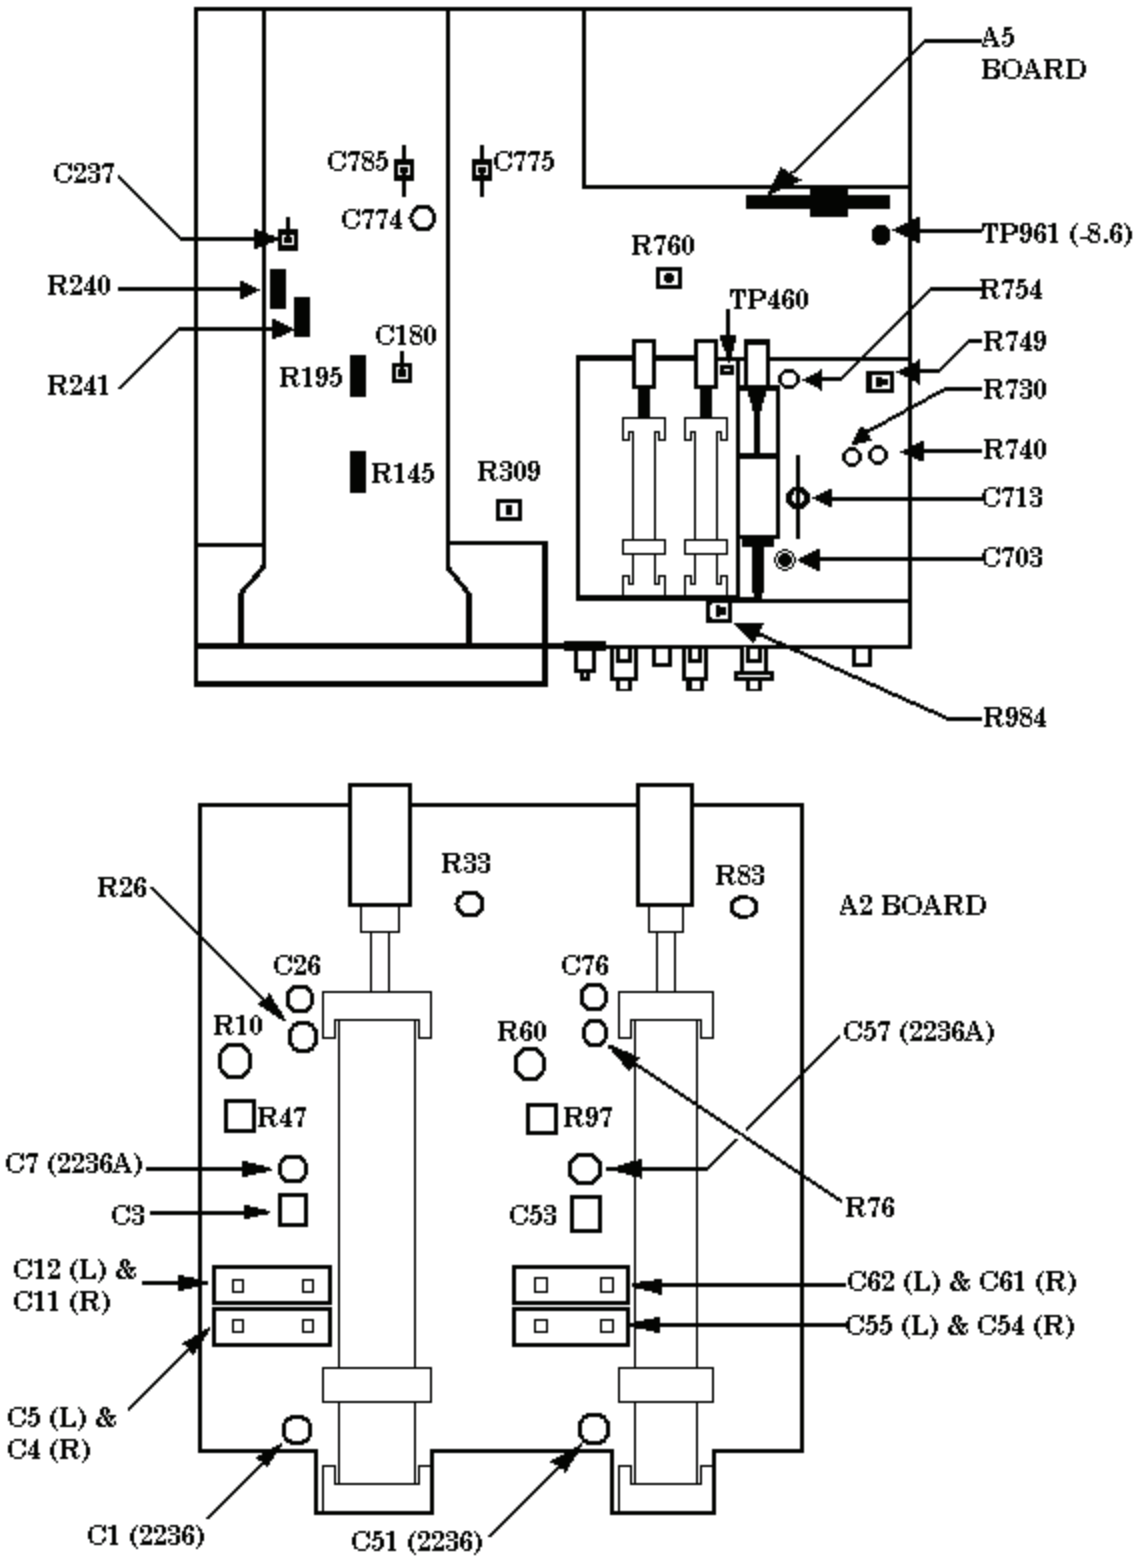

Figure 1. Adjustment locations – top view.
- (1) Disconnect equipment setup.
- (2) Set **CH 1 AC GND DC** switch to **AC**.
- (3) Set **CH 1 VOLTS/DIV** switch to **50m**.
- (4) Adjust **CH 1** **⇕POSITION** control to position trace on center horizontal graticule line.
- (5) Set **CH 1 VOLTS/DIV** switch to **5m**.
- (6) Adjust R10 (fig. 1) to position trace on center horizontal graticule line.
- (7) Repeat (3) through (6) above for minimum trace shift when setting **CH 1 VOLTS/DIV** from **50m** to **5m**.
- (8) Adjust **CH 1** **⇕POSITION** control to position trace on center horizontal graticule line.
- (9) Set **CH 1 VOLTS/DIV** switch to **2m**.
- (10) Adjust R33 (fig. 1) to position trace on center horizontal graticule line.
- (11) Set **CH 1 VOLTS/DIV** switch to **5m**.
- (12) Repeat (8) through (11) above for minimum trace shift when setting **CH 1 VOLTS/DIV** from **5m** to **2m**.
- (13) Connect oscilloscope calibrator **CHAN 1** to TI **CH 1** using a 50 Ω feedthrough termination.
- (14) Position TI switches as listed in (a) through (c) below:
- (15) Set oscilloscope calibrator for an **EDGE** mode output of 10 kHz and adjust for 5 divisions of vertical deflection on TI.
- (16) Adjust TI **CH 1** **⇅POSITION** control to position top of waveform to center horizontal graticule line.
- (17) Adjust C3 (fig. 1) and R47 (fig. 1) best square corner and flat top.
- (18) Remove 50 Ω feedthrough termination and connect oscilloscope calibrator **CHAN 1** to TI **CH 1**.
- (19) Set oscilloscope calibrator for a **VOLT** mode output of 10 mV at 1 kHz.
- (20) Position TI controls as listed in (a) through (c) below:
- (21) Adjust R26 (fig. 1) for 5 divisions of TI vertical deflection (R).
- (22) Set TI **CH 1 VOLTS/DIV** switch to **10m**.
- (23) Set oscilloscope calibrator for a 50 mV output.
- (24) Adjust R145 (fig. 1) for 5 divisions of vertical deflection on TI (R).
- (25) Connect oscilloscope calibrator **CHAN 1** to TI **CH 1** using a 5-80 pF standardizer.
- (26) Set oscilloscope calibrator for an **EDGE** mode output of 1 kHz and adjust for 5 divisions of vertical deflection on TI.
- (27) Adjust 5-80 pF standardizer for optimum square wave.
- (28) Adjust C7 (2236A) (fig. 1) or C1 (2236) (fig. 1) for best flat top.
- (29) Set TI **CH 1 VOLTS/DIV** switch to **.1**.
- (30) Replace 5-80 pF standardizer with 50 Ω feedthrough termination.